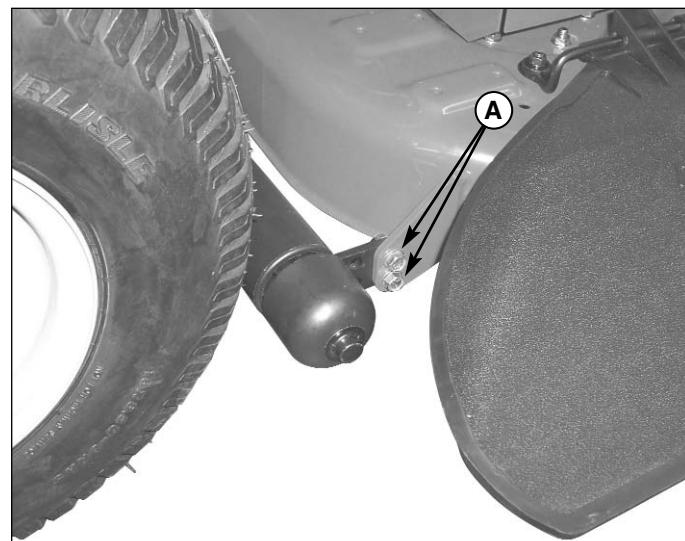

**Figure 31. Mower Leveling - Front-to-Back**
8. To adjust the front of the mower deck, use the adjusting nuts on the front hanger bar (A, Figure 31) until the desired measurement is achieved. Be sure to adjust both nuts the same amount.